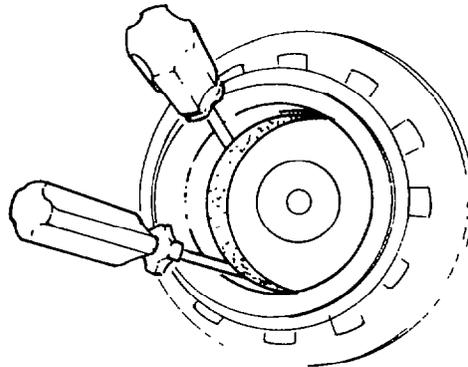

Fig. 299 — Removing Inner Retaining Ring
- b. Using two screwdrivers, remove the inner retaining ring from the power divider cage (see fig. 299).